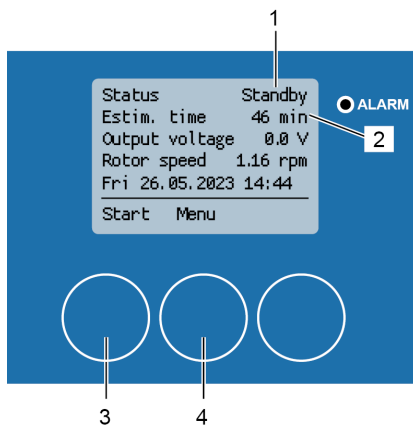

Fig. 159: Cleaning process start screen
If the calibration has been carried out successfully, the cleaning process start screen appears on the display showing the status indication "Standby" (Fig. 159/1) and the estimated cleaning time (Fig. 159/2).
1. Start the cleaning process with [Start] (Fig. 159/3).
Press [Menu] (Fig. 159/4) to return to "1 Main menu" menu.